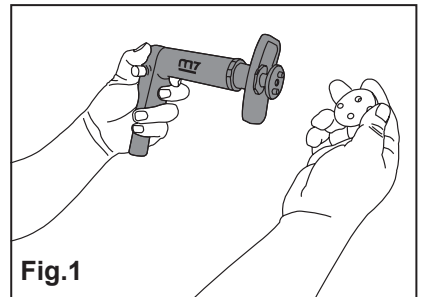

Fig.1
1. Choose an adapter suitable for working on the brake caliper piston. Fit it onto magnetic **1**. Connect the tool to the compressed air line, making sure that it does not exceed 8 bar pressure. (Fig.1)